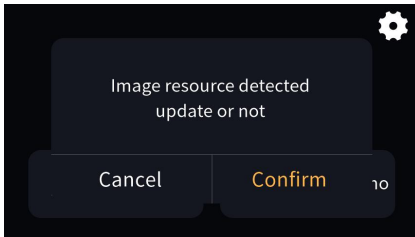

Fig.4.2.1
2. Insert the USB storage device into the device, if the USB storage device meet the above settings, and there are valid pictures, then pop up a window to request update, as shown in Fig.4.2.1;